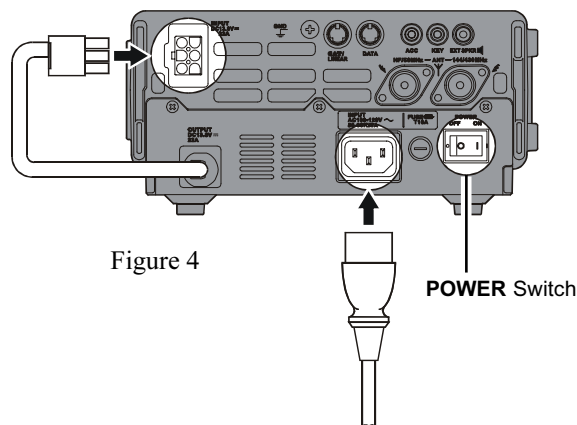

Figure 4
4. Connect the 6-pin Molex plug from the **FP-30** to the **INPUT** jack on the rear panel of the **FT-897D** (Figure 4).